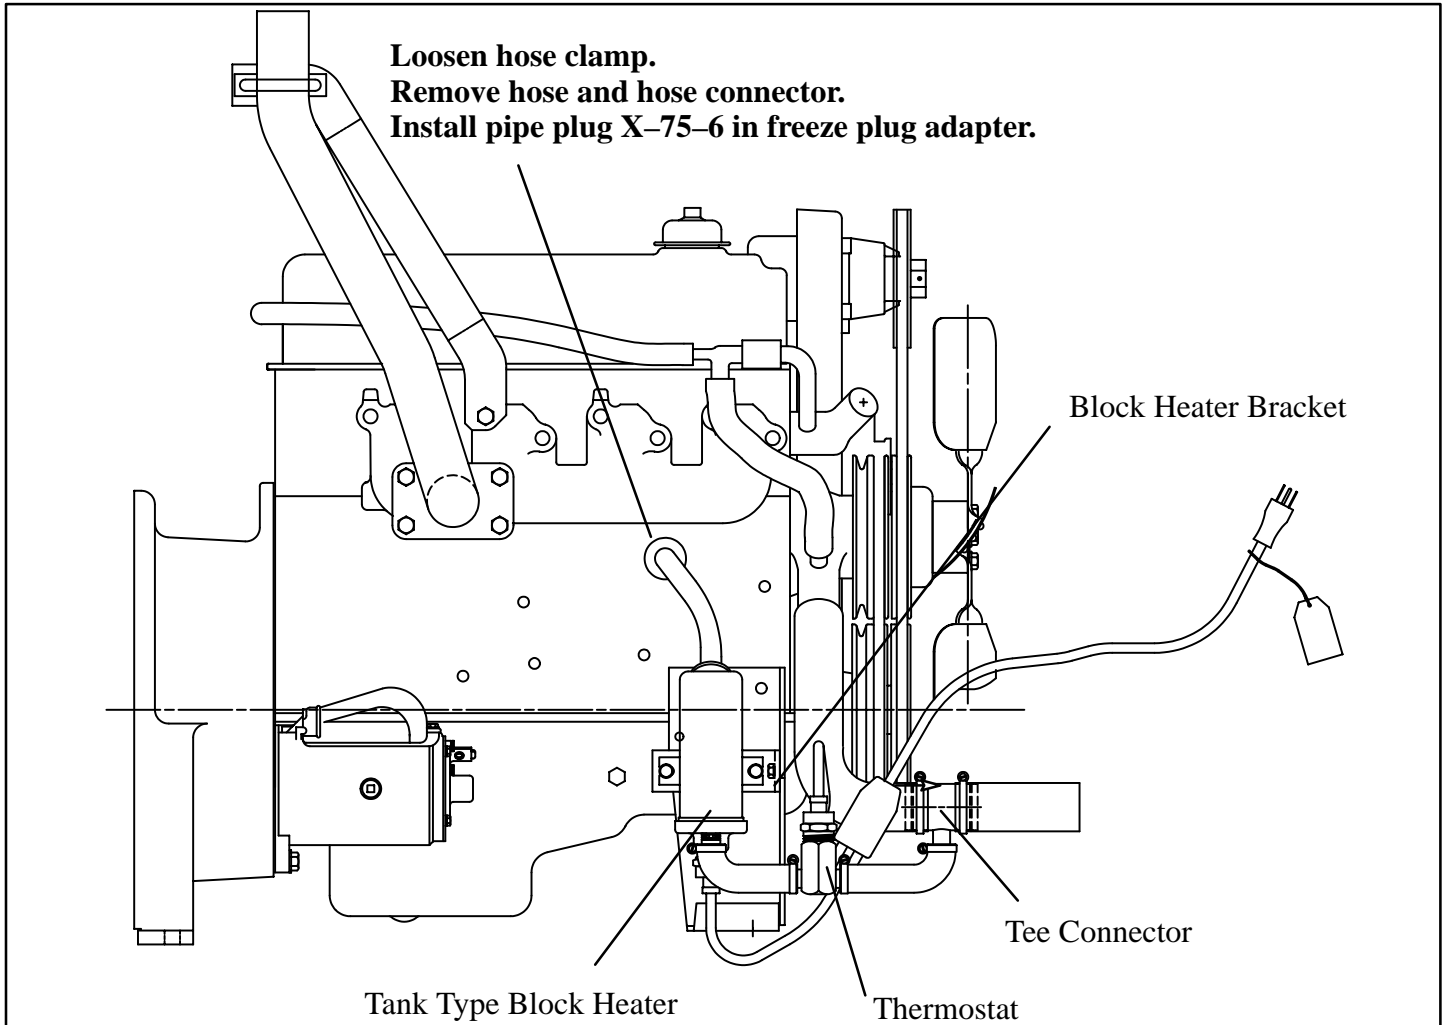

Figure 2. Removal of Early Version Tank Type Block Heater Kit
4. If an early version tank type block heater was installed, follow Step 4. See Figure 2. Otherwise, proceed to Step 5.